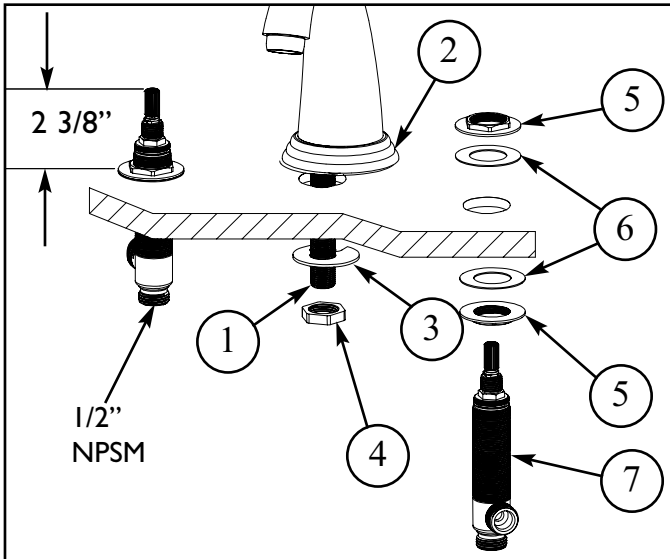

Figure 1
1. Place the spout SHANK (1) through base RING (2) and center hole of mounting surface. Secure spout into place with WASHER (3) and NUT (4), (align the WASHER (3) slot in direction of pop-up rod). See Figure 1.
2. Place flange NUT (5) and WASHER (6) on valve BODY (7). Insert BODY (7), (blue cold & red hot), through hole in the mounting surface. Adjust and secure with additional WASHER (6) and flange NUT (5) so that the top of valve is 2-3/8" above top of mounting surface. Before tightening down flange NUT (5), check HANDLE (15) alignment by placing onto VALVE (7). Any adjustments for rotational alignment must be made to the valve BODY (7), not to the cartridge. See Figure 1.